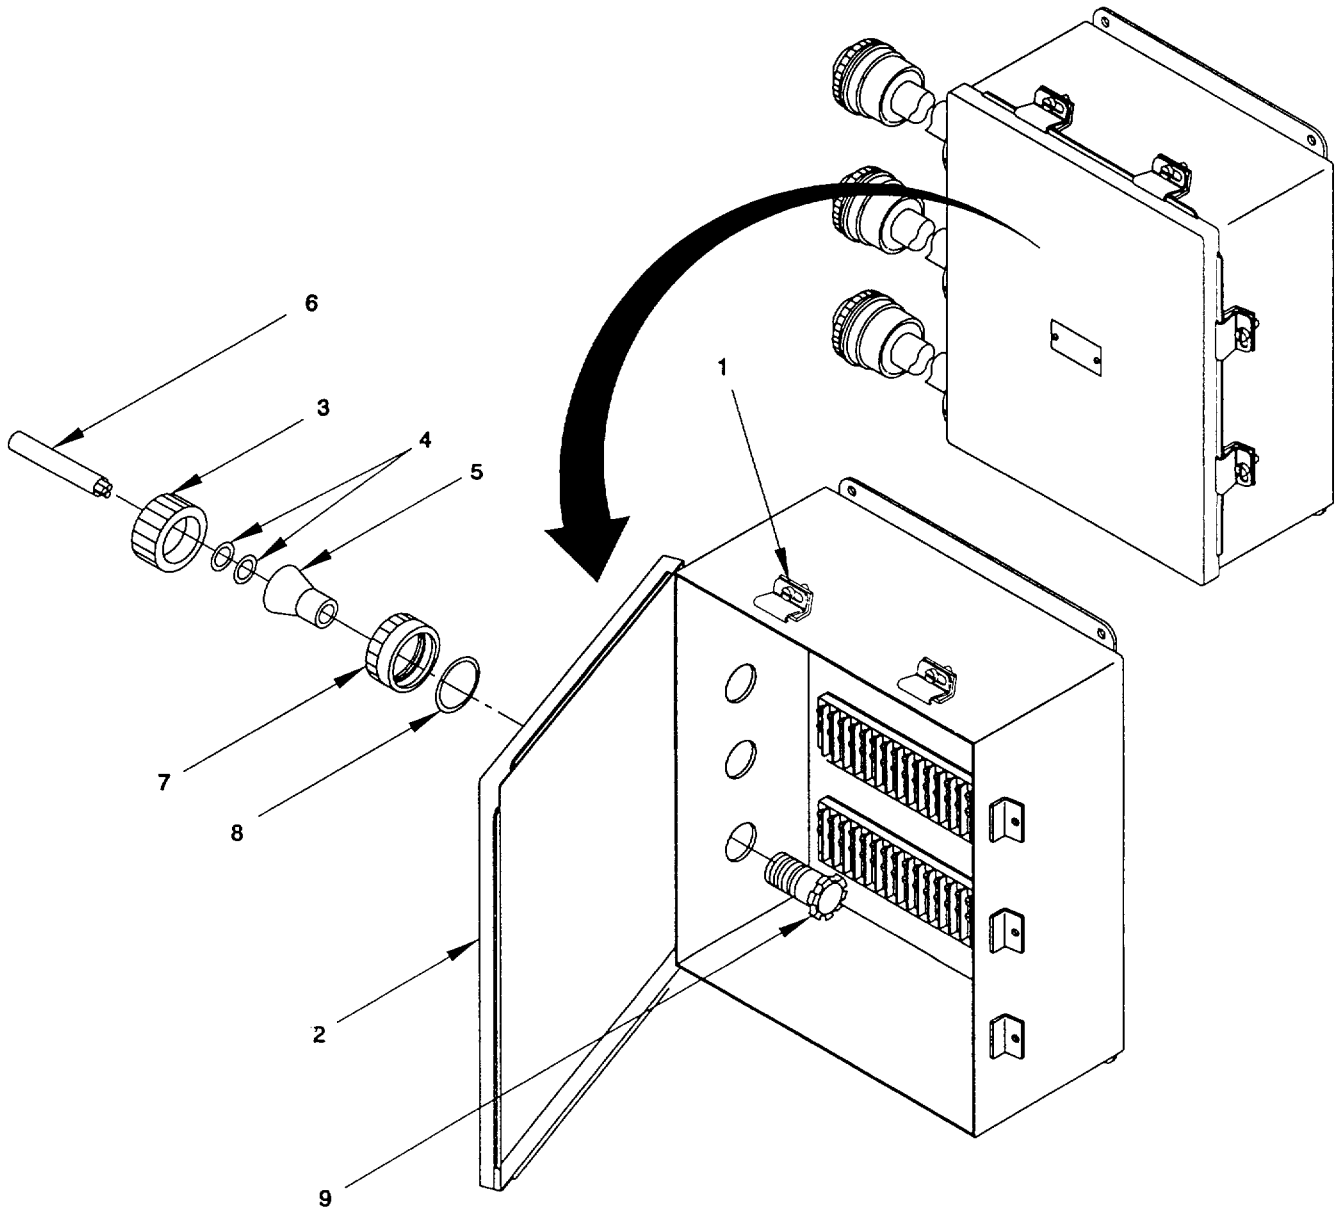

Figure 2-61. Cable Assembly, Power Module Junction Box "A3", Remove/Install.
a. *Remove.* (figure 2-61)
- (1) Loosen seven screws (1) securing cover (2) to enclosure. Swing cover open.
- (2) Disconnect and tag electrical wiring to terminal block. Refer to Appendix G.
- (3) Unscrew stuffing tube cap (3) and collect packings (4) and (5). Remove cable (6).
- (4) Remove stuffing tube nut (7), packing (8), and insert (9) from enclosure.
- (5) Repeat above steps for other cable assemblies.
b. *Install.* (figure 2-61)
- (1) Position nut (9) through enclosure. Install packing (8) and secure with stuffing tube nut (7).
- (2) Slide cable (6) end through stuffing tube cap (3), packings (4) and (5). Insert wire ends through stuffing tube nut (7) into enclosure. Tighten stuffing tube cap (3) until secure.
- (3) Connect tagged electrical wiring to terminal block. Refer to Appendix G.
- (4) Close cover (2), apply antiseize compound to seven screws (1), and secure.